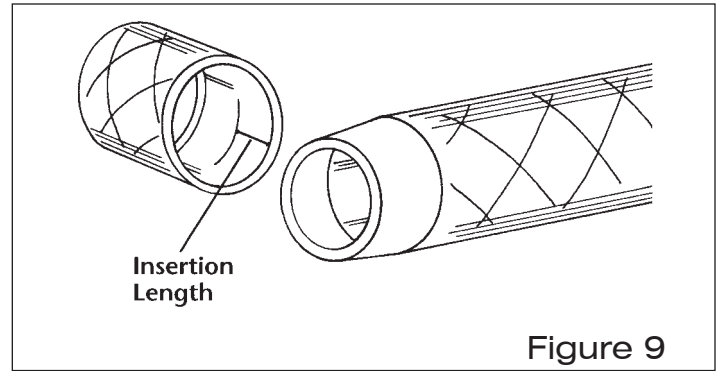

Figure 9
30. Mark the inside of the bell at the end of the pipe. (See Fig. 9.) If it is impossible to reach into the bell, mark the O.D. of the spigot end, then remove the spigot end and measure the insertion length at the longest point.